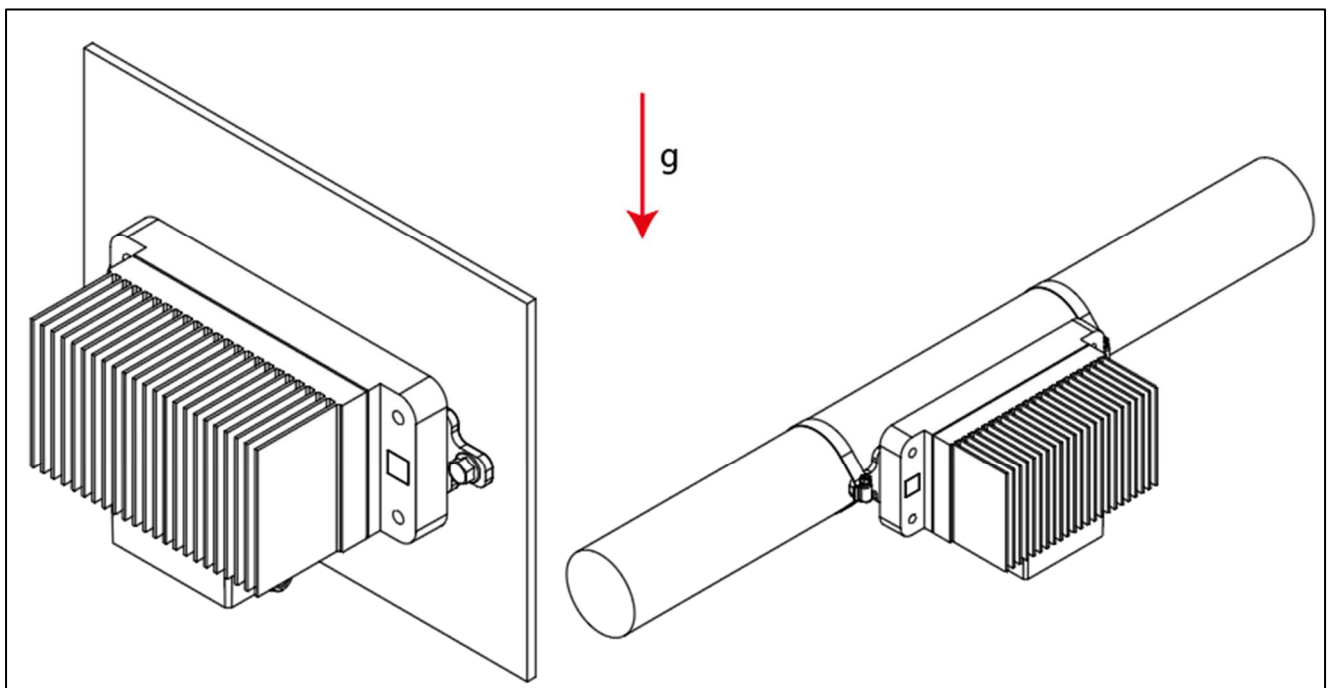

Figure 5.- Thermoelectric generator mounting options (IET) with vertically positioned heat sink fins
- Performance can also be improved by installing the module with the heat sink fins in a vertical position as shown in Figure 5.